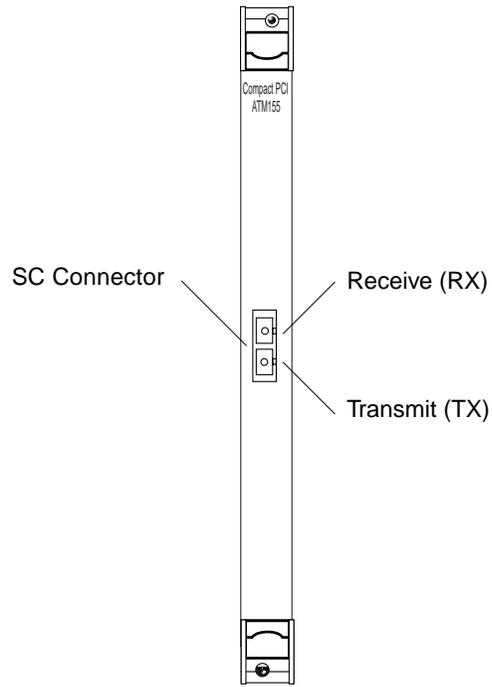
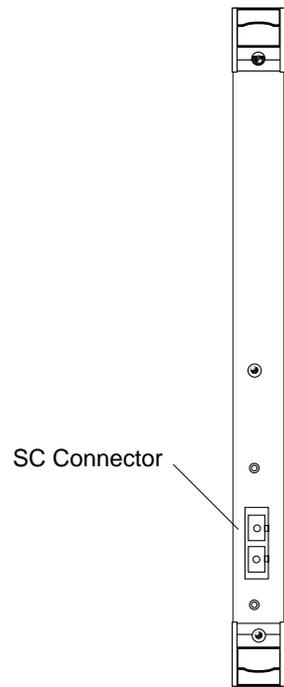

FIGURE A-1 SC Connector on Rear Transition Card of the Rear-Access Adapter
FIGURE A-2 SC Connector on the Front-Access Adapter
The adapter contains an SC fiber connector already keyed, with the top receptacle keyed to receive (RX) and the bottom one keyed to transmit (TX). FIGURE A-1 and FIGURE A-2 show the location of the SC connector on the rear-access adapter and front-access adapter, respectively.